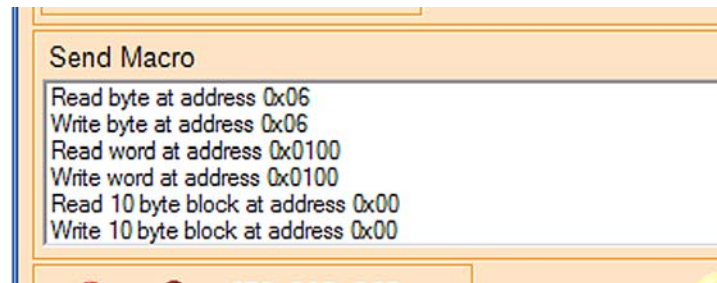

Figure 7: Send Macro text box
- You will load this XML file by opening the file menu and clicking on the 'Open XML Data' item then select from the directory from the file: 'EEPROM\_Test.xml'. Figure 7 shows the names of the macros we will be using.